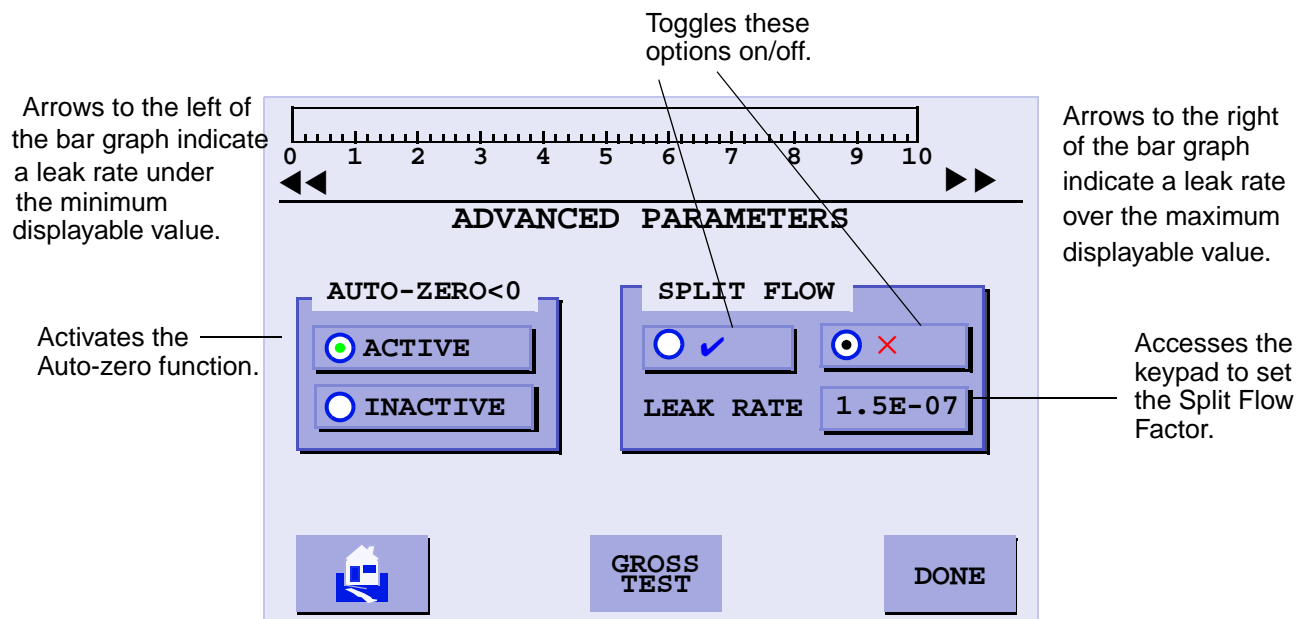

Figure 3-3 Advanced Parameters
- Press **Advanced Parameters** on the Set-Up screen and the Advanced Parameters screen appears (Figure 3-3).